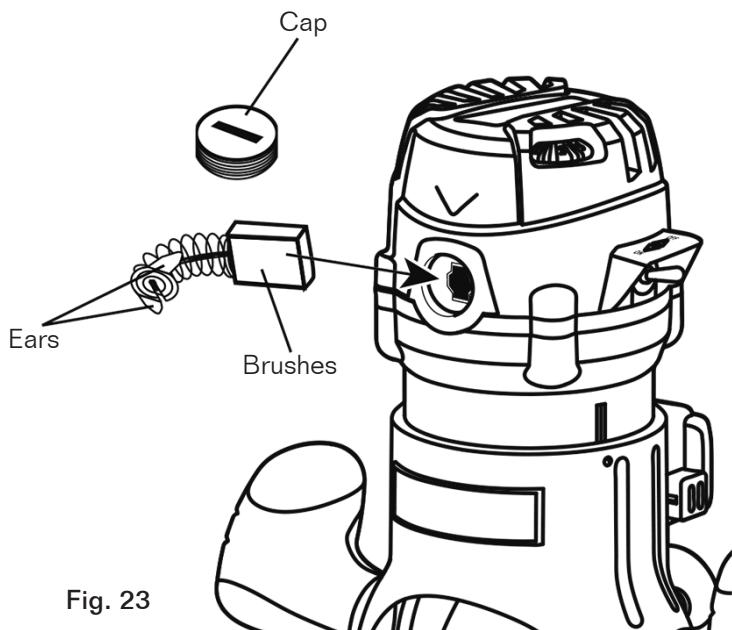

Fig. 23
REPLACEMENT OF CARBON BRUSHES (FIG. 23)
3. Using a slotted screwdriver, remove the black, plastic cap on each side of the router motor (FIG. 23) and carefully withdraw the spring-loaded brush assemblies. Keep brushes clean and sliding freely in their guide channels.
4. Insert new brush assemblies into the guide channels with the carbon part going in first, being certain to fit the two metal "ears" into their slots in the channel (FIG. 23).